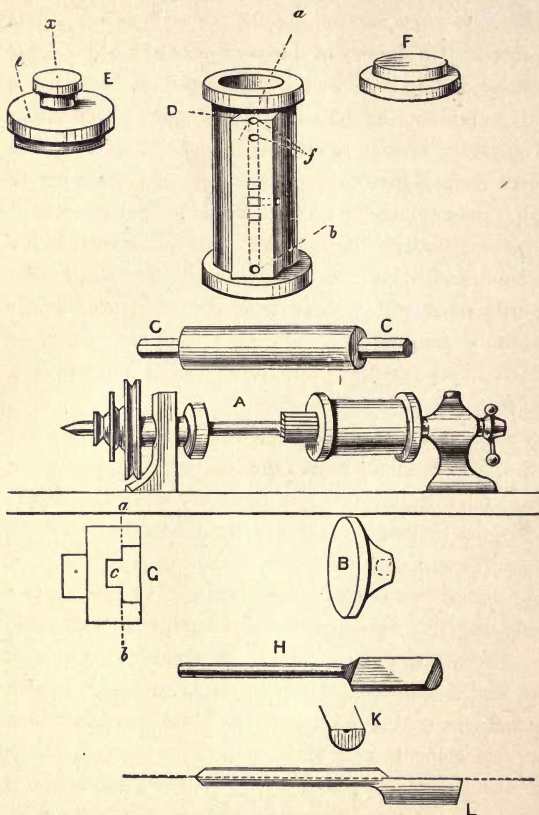

Fig. 65.
**T**HE very first mechanical work of difficulty, but of pre-eminent importance, in making an engine, is boring the cylinder, that is, if the same is a casting, and not a piece of tube ready made and smooth on the inside. This is, properly speaking, lathe work, yet may be done in a different way. Suppose you have bought your entire set of castings, which is the best way, and that the cylinder is half an inch diameter inside, which is a manageable size to work upon. Get a half-inch rosebit, which is very like the countersinks sold with the carpenter's brace and bits. Mount it in the lathe in a chuck, A, Fig. 65. Unscrew the point of the back poppit, and slip over the spindle a boring-flange, B, which is merely a flat plate like a surface chuck, only the socket is not screwed but bored out, generally large enough to slip over the spindle. Sometimes there is, however, a screw at